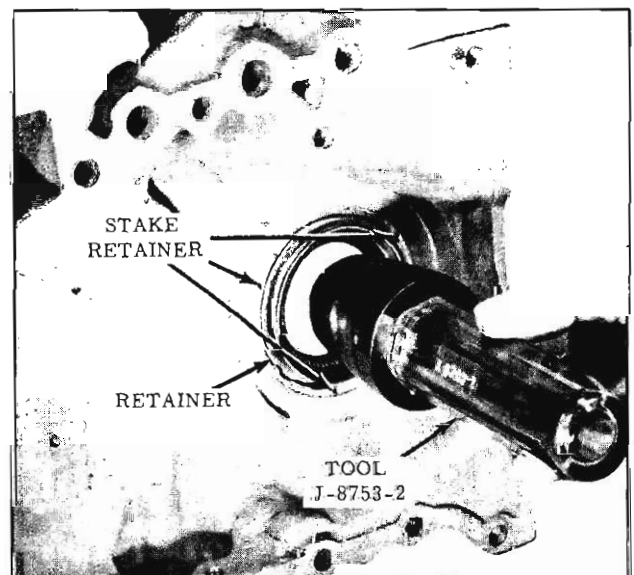

Fig. 3-120 Sizing Front Oil Seal
7. Place Tool J-8753-2 in seal and push tool a little at a time from both sides of the seal until tool goes through seal. (Fig. 3-120)